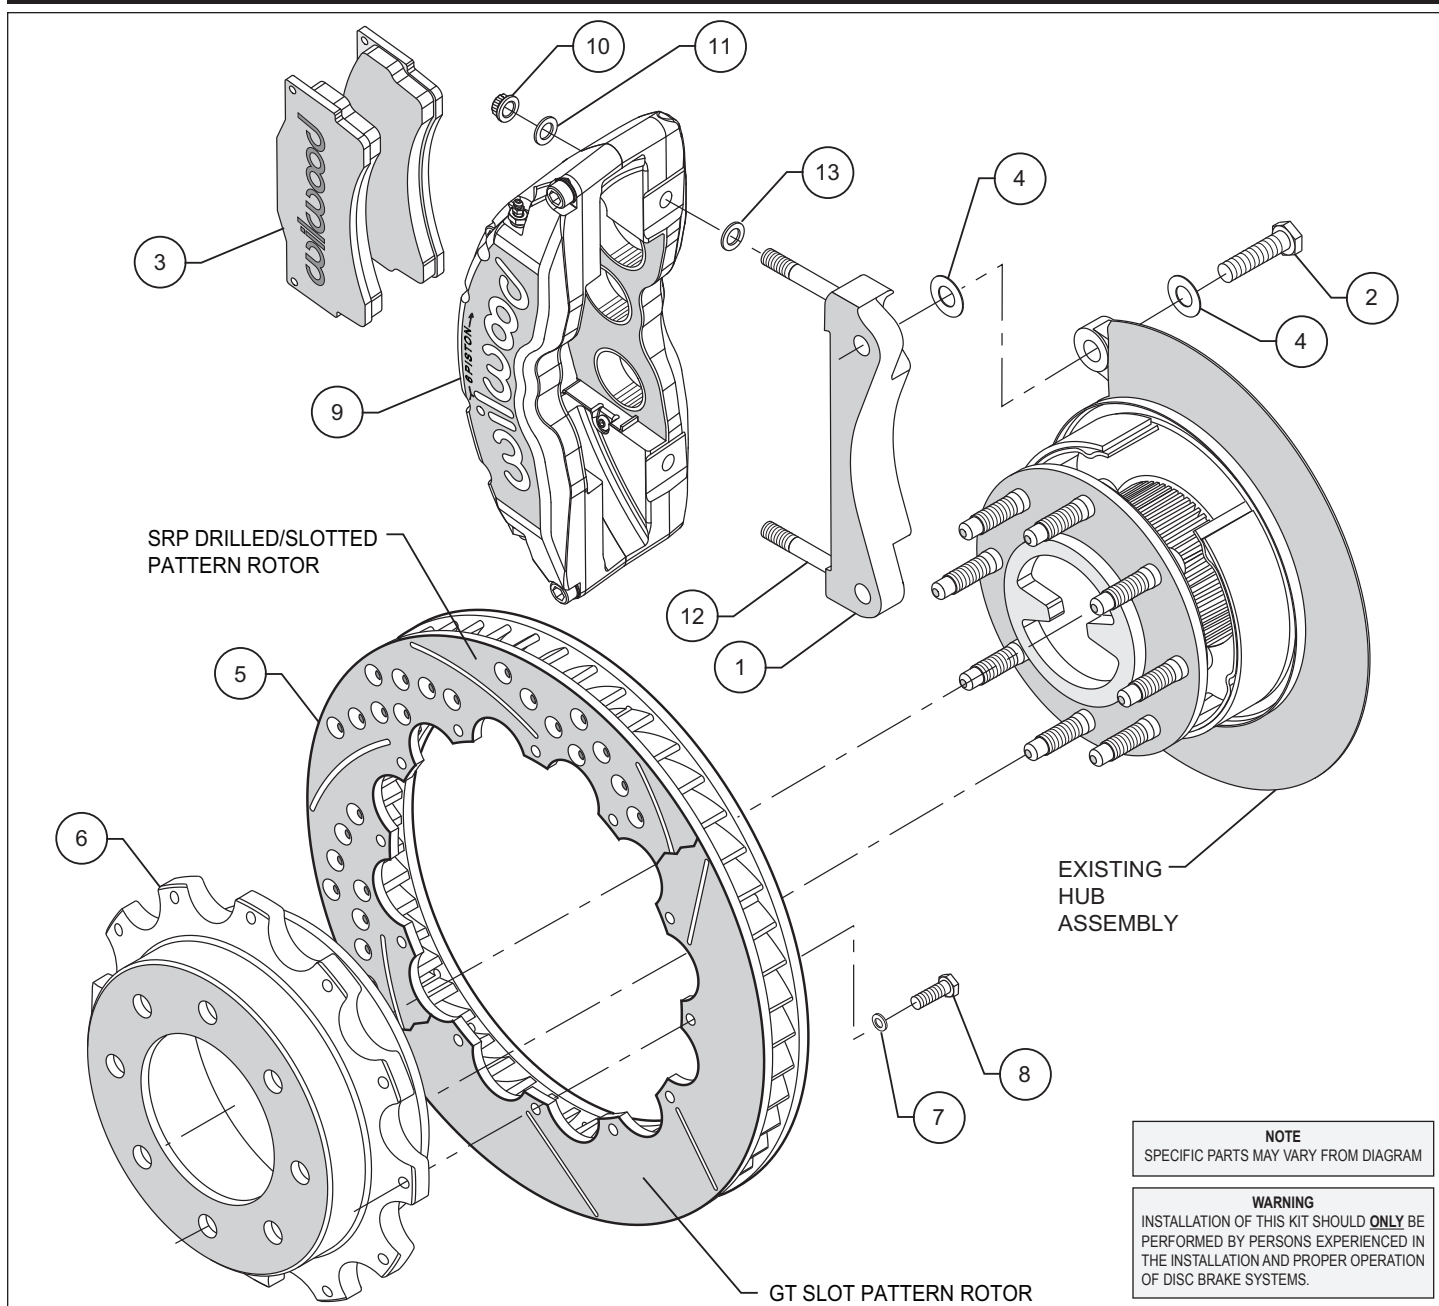
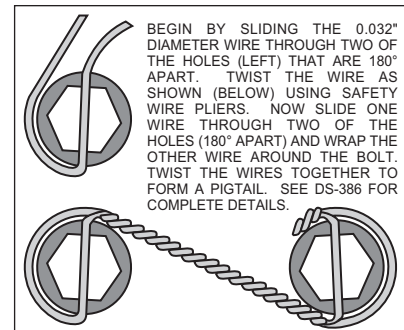

Figure 1. Typical Installation Configuration
Figure 3. Safety Wire Diagram
- The caliper mount bracket assembly (1) should be installed first with clean, dry threads on the mounting bolts (2). Install the bracket by sliding bolt (2) through shim washer (3) from the rear side of the hub through the OEM caliper mounting bracket ears, then through an additional shim washer (4) and into the bracket (1). The bracket must tighten squarely against the outboard side of the caliper mount bosses on the upright. Inspect for interference from casting irregularities, machining ridges, burrs, etc. Use one shim (4) between the bracket and upright during initial trial fitting. Later, after the caliper, pad, and rotor alignment have been checked, and any necessary shims have been put in place, the mounting bolt threads (2) should be coated with red *Loctite*® 271 and torqued to 95 ft-lbs.
- Attach the rotor (5) to the hat (6) using bolts (8) and washers (7) as shown in Figure 1. Using an alternating sequence, remove bolts one at a time, apply red *Loctite*® 271 to the threads, and torque to 198 in-lbs. Safety wire the bolts using standard 0.032 inch diameter stainless steel safety wire as shown in Figure 3. Please refer to Wilwood's data sheet DS-386 (available at www.wilwood.com/Pdf/DataSheets/ds386.pdf) for complete safety wire installation instructions.
- Lubricate caliper mounting studs and nuts with lightweight oil. Install one shim (13) over each stud (12) on the radial mount bracket (1). Slide the caliper (9) in place over the studs and rotor and install the washers (11) [up to 4 may be required on each side to keep the lock nut from bottoming out on the stud], and lock nut (10) to hold the caliper in place. The caliper bleed screws should be pointing up. Snug the lock nuts (10) and check that the rotor (5) is centered in the caliper (9). Add or subtract .029" shims (4) as necessary between the caliper mount bracket and the caliper mount bosses on the upright assembly to center the caliper.
- Remove the two caliper center bridge pad retainer bolts, nuts, and tubes from the caliper. Slide the brake pads (3) into place. They should install easily without interference. Check that the outside radius of the brake pad is aligned with the outside diameter radius of the rotor face. Add or subtract shims (13) between the caliper and mount bracket to gain the proper alignment. Reinstall the two center bridge pad retainer tubes, bolts, and lock nuts. The locknut should be snug without play in the bolt or tube. Be cautious not to over tighten.
- Once all clearances have been checked, remove the wheel, caliper and rotor from the axle flange. Secure the caliper mounting bracket (1) to the axle flange body with bolts (2) while coating the threads with red *Loctite*® 271. Torque the bolts to 95 ft-lbs. Reinstall the rotor and again use several lug nuts to hold it in place. Reinstall the caliper, torque the caliper nuts (10) to 30-35 ft-lbs.